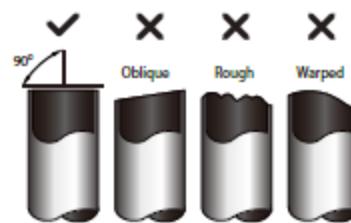

Fig. 6.1
4. Make sure that the pipe is cut at a perfect 90° angle. Refer to Fig. 6.1 for bad cut examples.